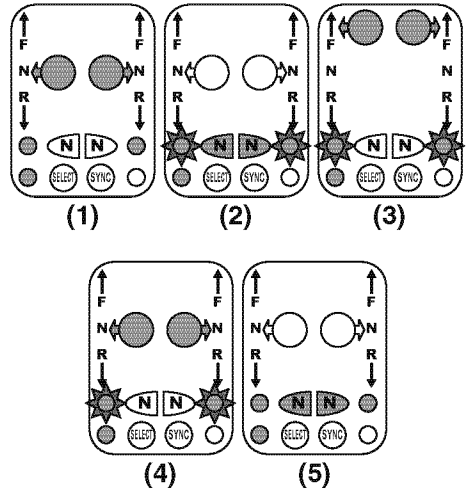

Figure 17
1. Return the handle(s) to neutral. The N (NEUTRAL) lights glow steadily **(Figure 17, (1))**.
2. Press the NEUTRAL button(s) **(Figure 17, (2))**. The NEUTRAL light(s) flash (star around light(s) in **(Figure 17, (2))**).
3. Move the handle(s) to forward or reverse throttle **(Figure 17, (3))** resulting in engine rpm control without engaging marine gear.
1. Return the handle(s) to NEUTRAL **(Figure 17, (4))**.
2. Press the NEUTRAL button(s) **(Figure 17, (5))**. The neutral light(s) glow steady **(Figure 17, (5))**.